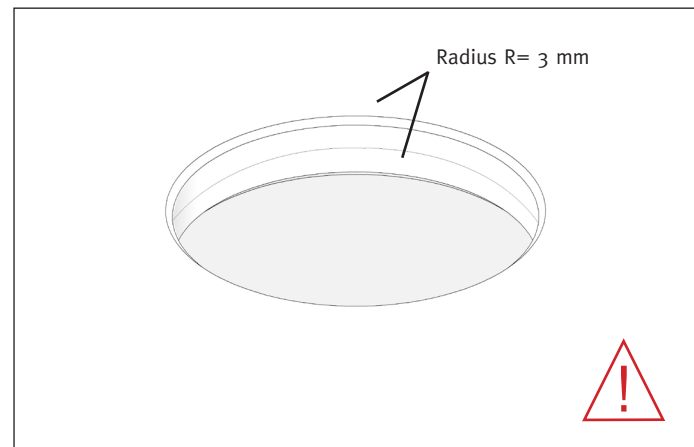

Fig. B2
- Apply a radius of at least $R=3$ to the upper and lower sides of the cutout. The cutout recesses should be meticulously sanded in order to avoid hairline cracks. (fig. B2).